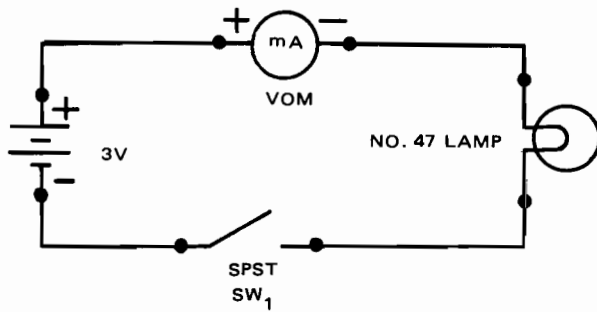

Fig. 4-2-4
10. Connect circuit of Fig. 4-2-4. Power source of 3 V may be obtained from two “C” cells or from